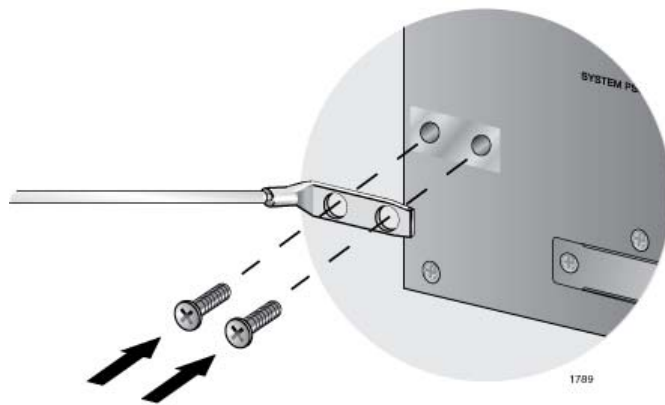

Figure 43. Installing the Grounding Lug and Wire
4. Install the grounding lug on the rear panel of the chassis, as shown in Figure 43.